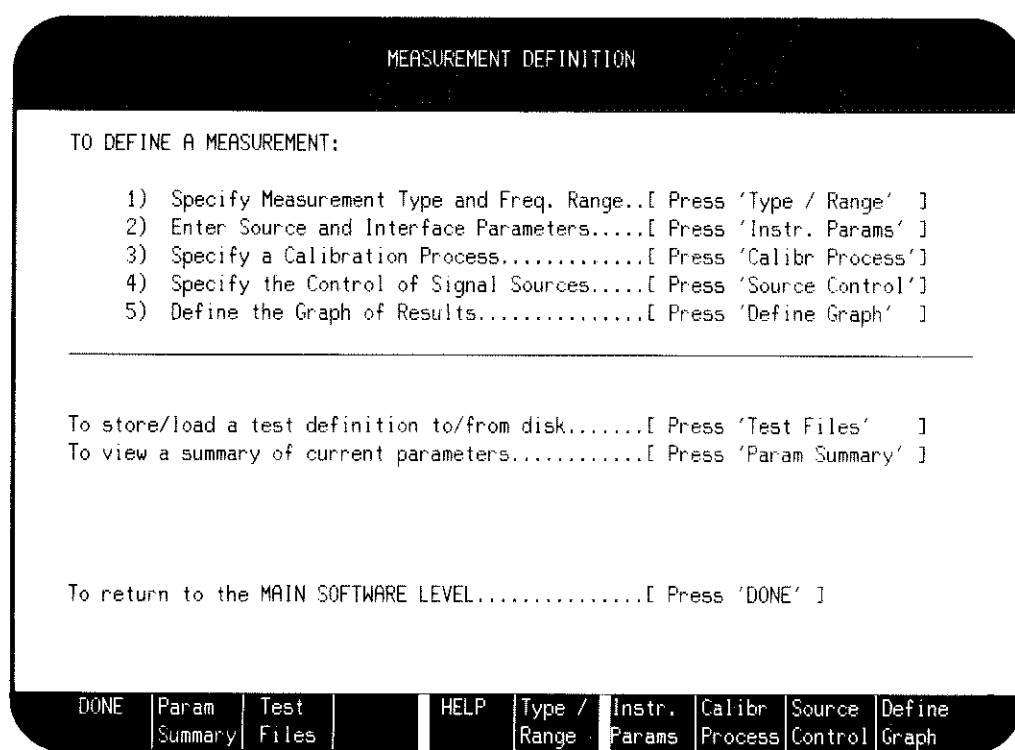

Figure 3-9. Measurement Definition Menu
5. On the HP 3048A press the **Define Msrmnt** softkey to obtain the Measurement Definition menu. Refer to figure 3-9.